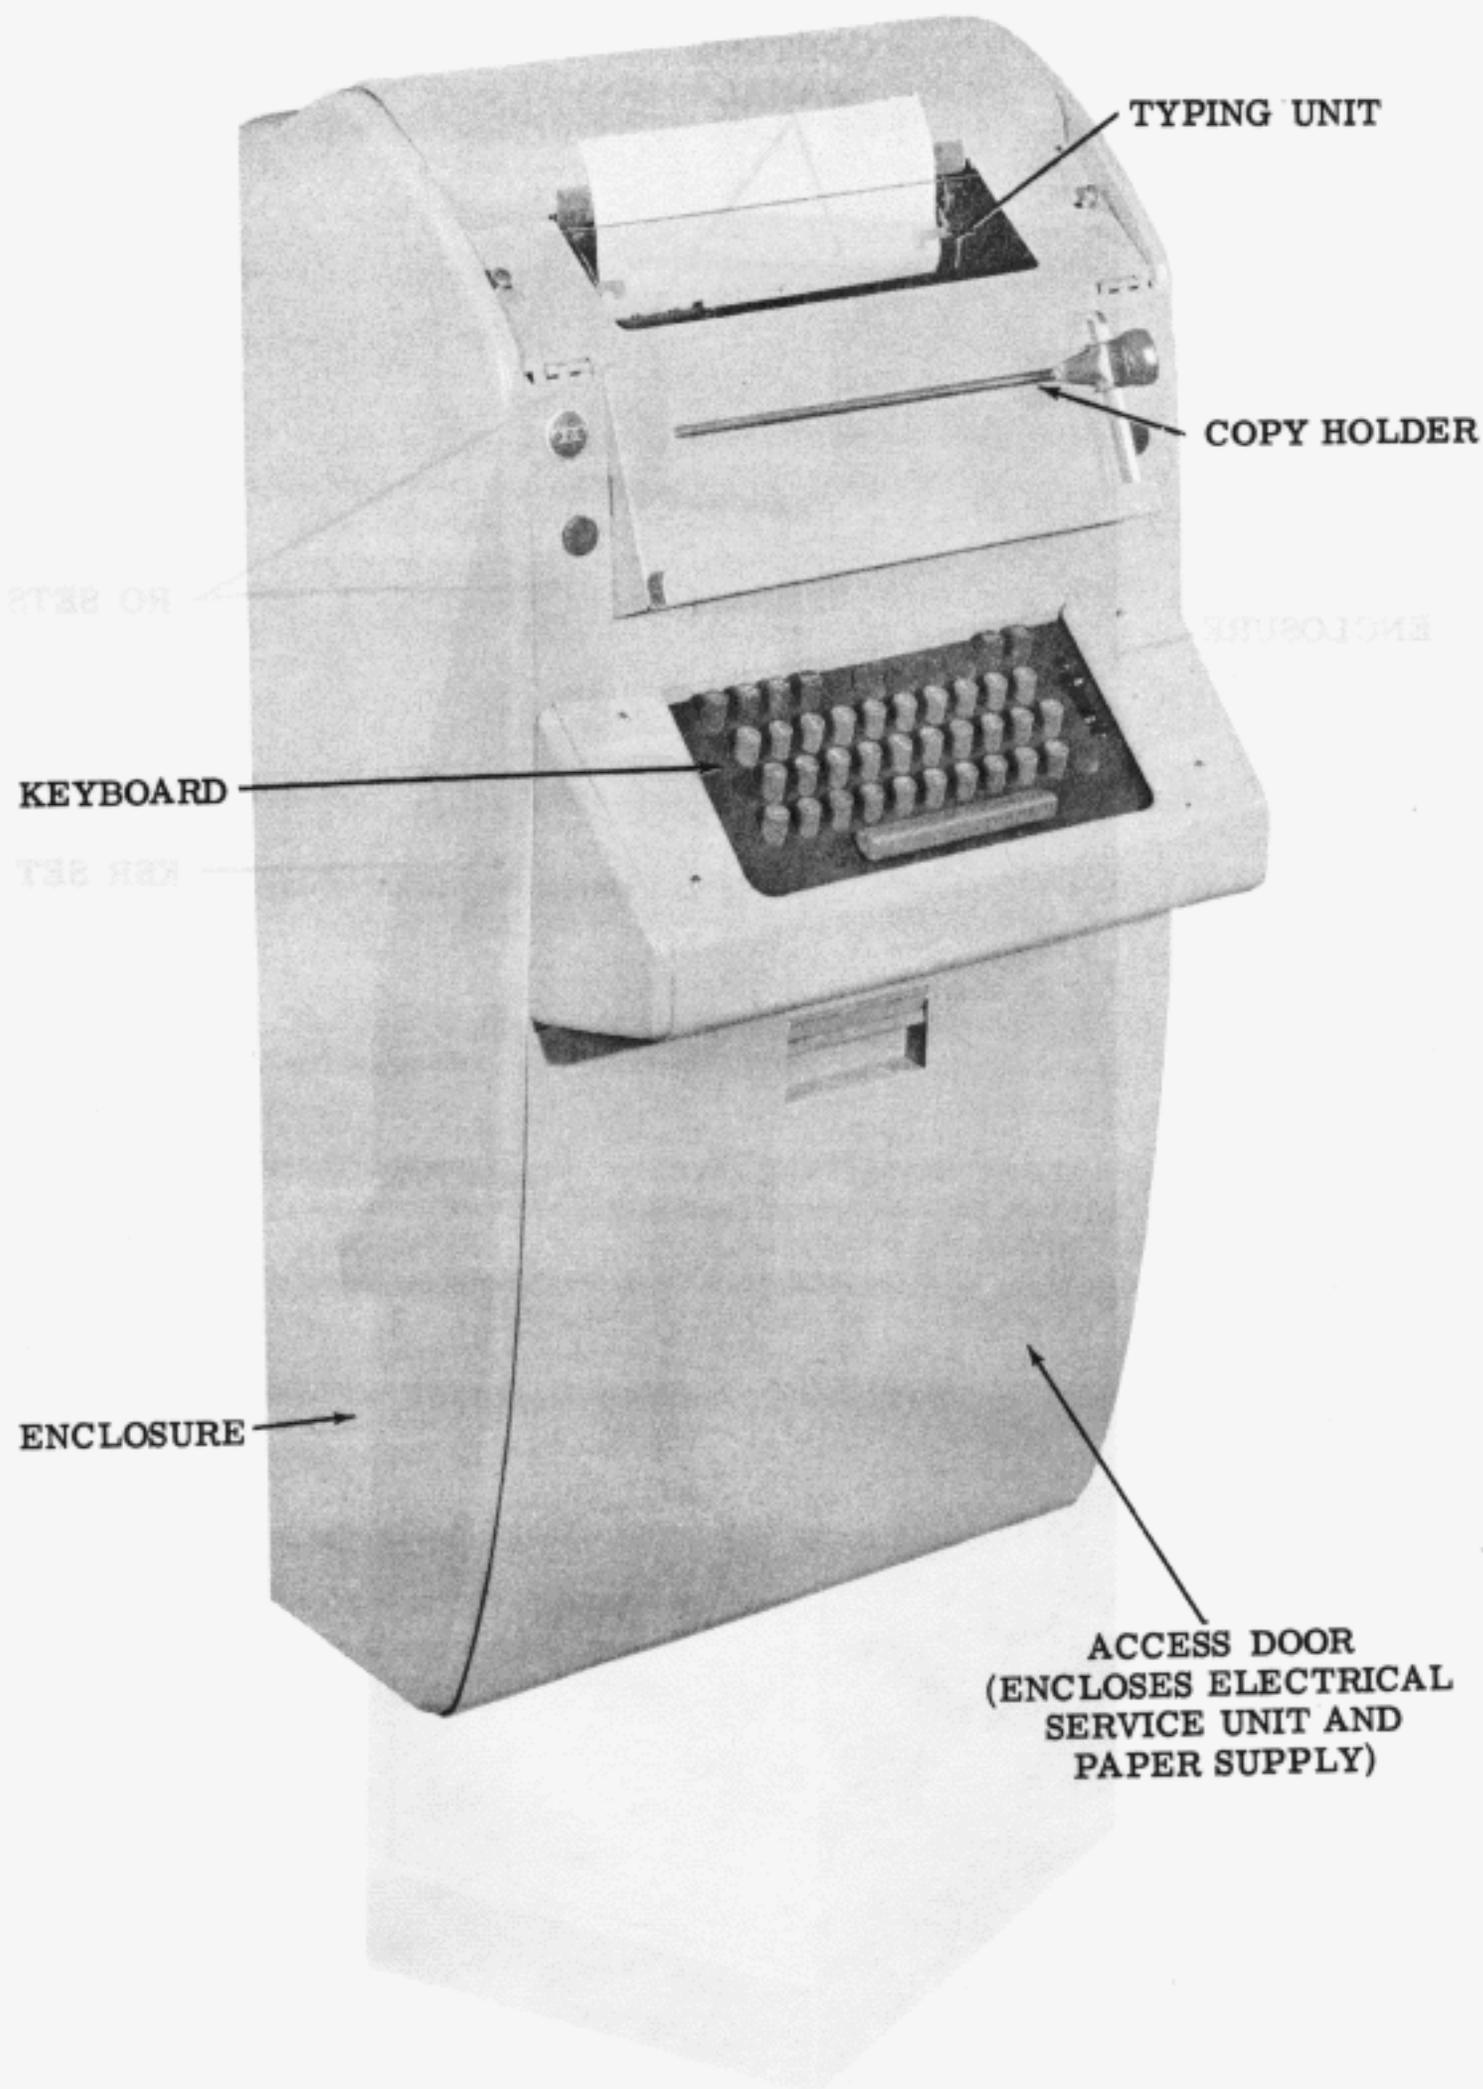

Figure 4 - Wall Mounted Send-Receive (KSR) Teletypewriter Set
- (d) Wall Mounted Set - May be mounted on a wall surface to conserve floor space (Fig. 4).